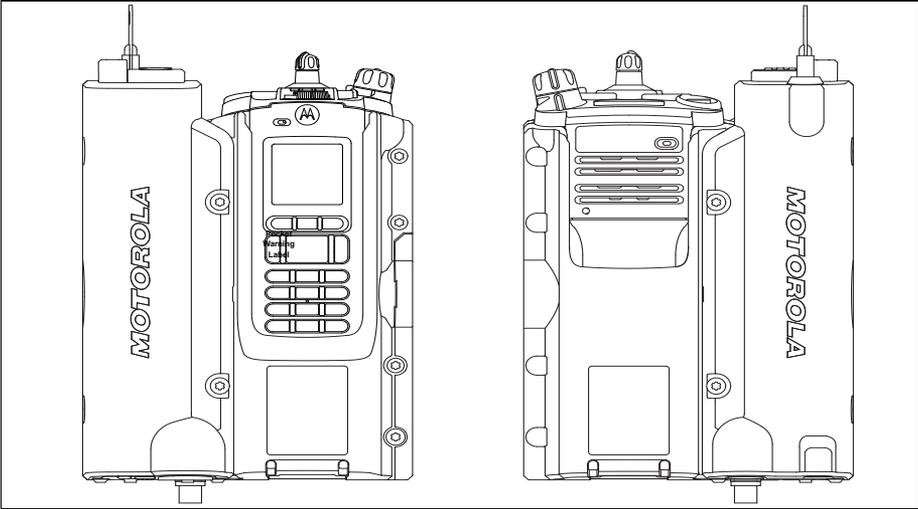
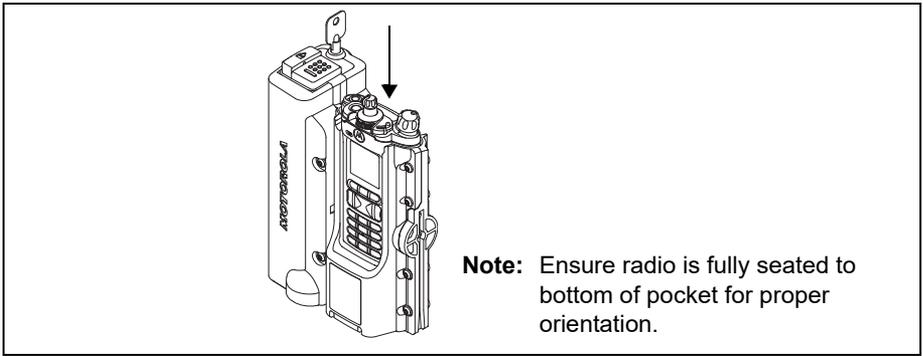

Figure 11: Radio with Keypad Orientation and Speaker Orientation (respectively)
Figure 12: Radio Installation into APX VA Unit
2. Referring to Figure 11 and Figure 12, orient the radio with battery attached-speaker or keypad facing upward or outward. Then, slide the radio into the APX VA radio pocket as far as it can go until the radio is fully inserted in the pocket.